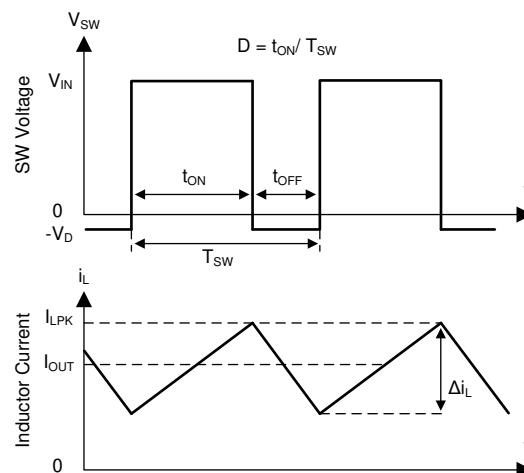

図 7-1. SW Node and Inductor Current Waveforms in Continuous Conduction Mode
The following operation description of the LM76005 refers to セクション 7.2 and to the waveforms in 図 7-1. The LM76005 supplies a regulated output voltage by turning on the internal high-side (HS) and low-side (LS) NMOS switches with varying duty cycle (D). During high-side switch on-time, t_{ON} , the SW pin voltage V_{SW} swings up to approximately V_{IN} , and the inductor current, i_L , increases with linear slope. The HS switch is turned off by the control logic. During the HS switch off-time, t_{OFF} , the LS switch is turned on. Inductor current discharges through the LS switch, which forces the V_{SW} to swing below ground by the voltage drop across the LS switch. The regulator loop adjusts the duty cycle to maintain a constant output voltage. The control parameter of a buck converter is defined as duty cycle $D = t_{ON} / T_{SW}$. In an ideal buck converter, where losses are ignored, D is proportional to the output voltage and inversely proportional to the input voltage: $D = V_{OUT} / V_{IN}$.